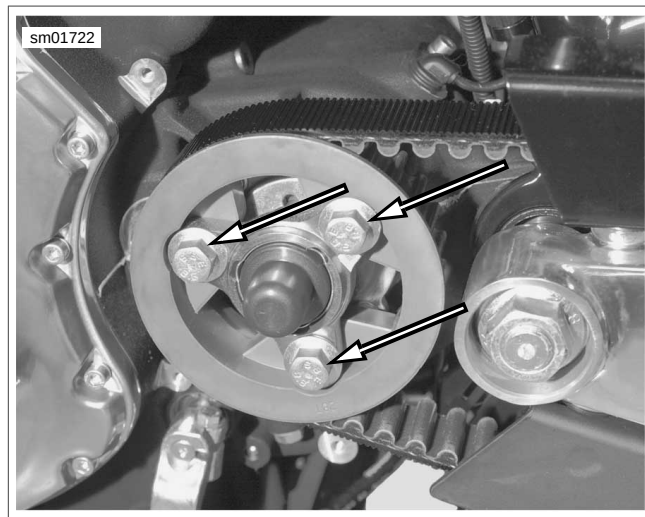

Figure 2-10. Drive Sprocket Retaining Bolts
33. See Figure 2-10. Loosen retaining bolts holding drive sprocket to sprocket mounting flange.
35. See Figure 2-10. Remove retaining bolts from drive sprocket. Remove sprocket from mounting flange. Discard bolts.